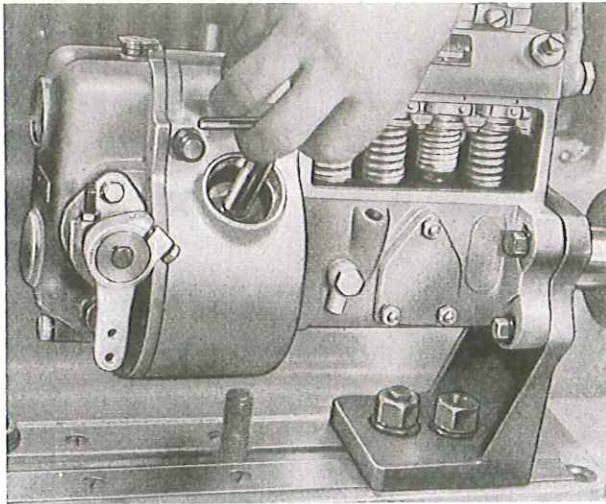

Fig. 32. - Adjusting the fly-weight opposing springs using wrench A 527008.
Should the control lever (L) reach the end of its run and the control rod not complete its  $0.472$ " (12 mm) stroke with a sufficient margin of safety, remove, using special screwdriver **A 12114** the plug of the cover opening which allows reaching the fly-weights and adjust using wrench **A 527008** (fig. 32) the load on governor springs (M) by turning the retaining collars down. The same operation must be carried out when the control rod is not brought back towards the stop in spite of speed rate increasing.